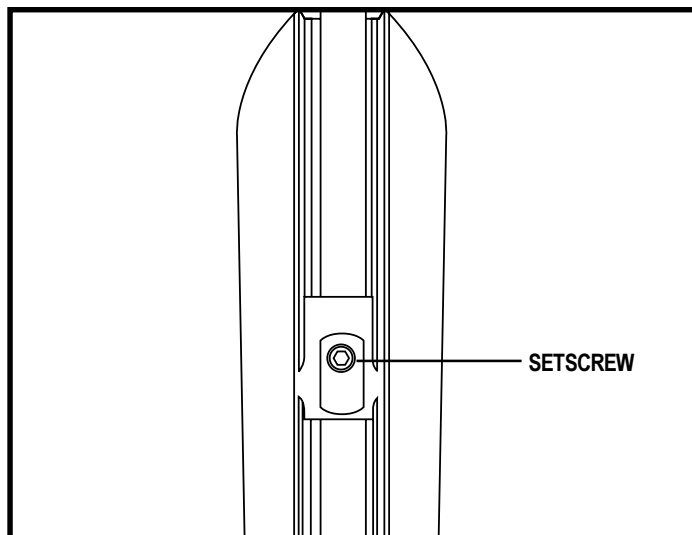

Figure 23. Underside of Armrest
4. Flip up the armrest and loosen the setscrew. See figure 23.